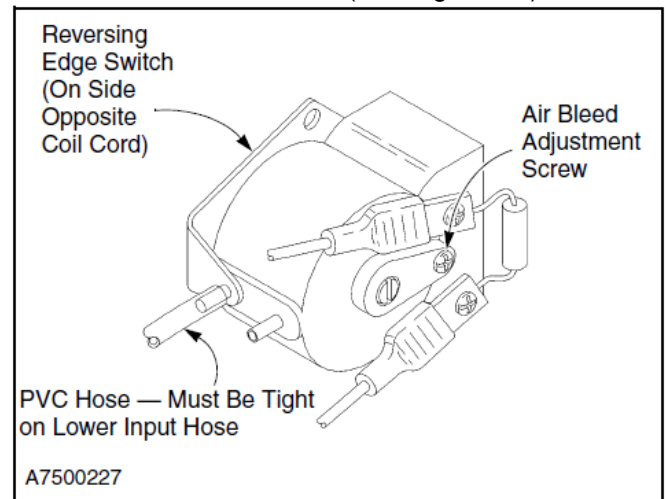

Figure 28
2. Make sure the clear PVC hose is in tight contact with the air input post so that air leakage cannot occur and that vibration will not cause the hose to fall off, not kinked. (See Figure 28.)
3. The air bleed has been set at the factory and should not require adjustment. To check the air bleed, turn the air bleed adjustment screws located on the front and back of the switch fully clockwise but do not overtighten. Then turn the screws back counterclockwise one full turn. (See Figure 28.)